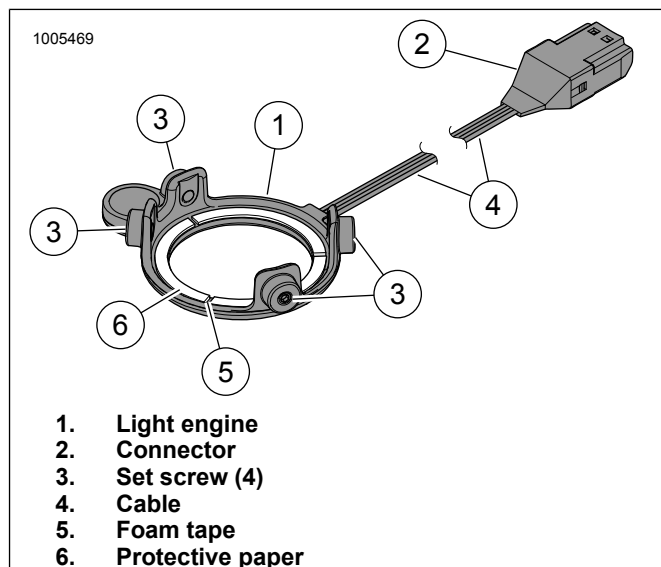

Figure 20. LED Light, Saddlebag Stage I Speaker
11. See Figure 20. Remove protective paper (6) from foam (5) tape on back of light engine (1).